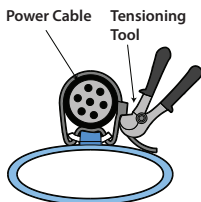

Fig 1.6
N.B. Initial positioning of the shoulder may vary depending on the power cable diameter, so that the shoulder falls to the side of the power cable (Fig. 1.6) after securing.
Push the cable strap end through the shoulder and tighten using a tensioning tool (Fig. 1.6). N.B. It is important the cable strap firmly grips the power cable which can only be achieved using a tensioning tool.